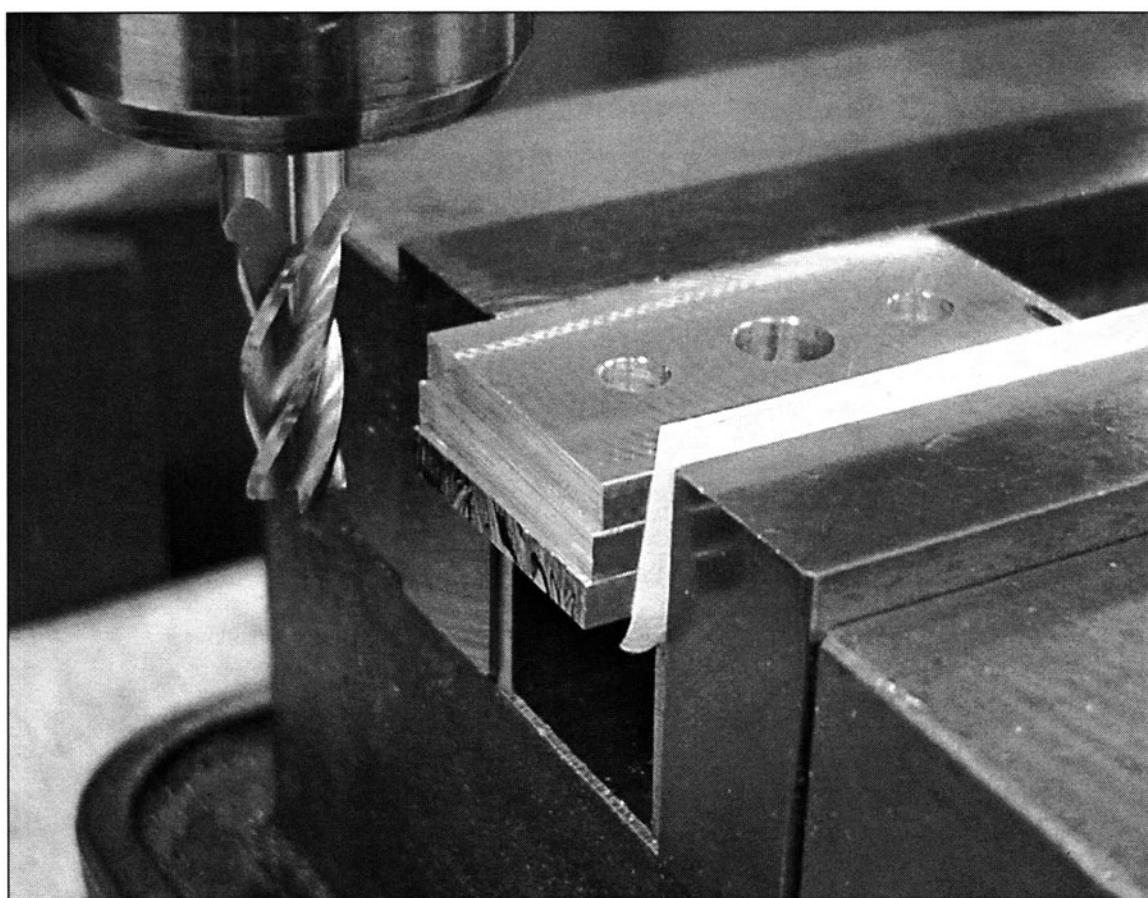

FIGURE 6-34 A gathering of paper is placed between a stack of parts and the vise jaw to make up for slight differences in part width.
49. *Put a piece of folded up paper behind a stack of parts clamped edgewise in a vise to hold parts securely. (See Fig. 6-34)*